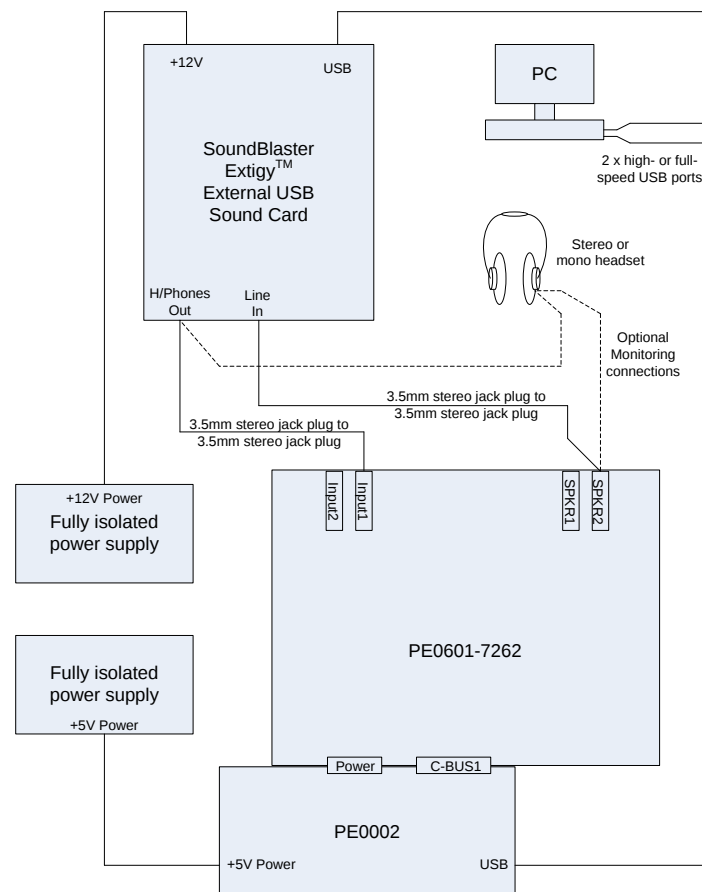

Figure 1. Initial Equipment Set-up
1. Connect the equipment as shown in Figure 1 noting the audio leads are not connected.